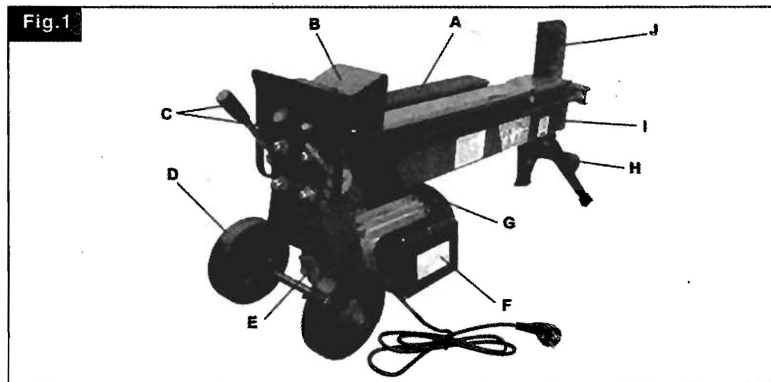

Figure 1: List of major components
Check these components according to the following list and Figure 1.
6. Place log onto Splitter, lengthwise and lying flat on the Main Body (1 in Figure 1). The log should lie flat on the Splitter. And be cradled by the Log Guiding Plates (A in Figure 1). Never attempt to split a log at an angle. Be sure the Wedge (J in Figure 1) and Log Pusher (B in Figure 1) will contact the log squarely on the ends.
7. Two hand operation. Depress the Electric Motor Start Switch (Point F in Figure 1) with one hand. Wait a few seconds as the motor spins up and creates pressure in the Hydraulic pump. Then, when it is safe to do so, Depress the Operating Handle (C in Figure 1). The Log Pusher (B in Figure 1) will compress the log, pushing it against the Wedge (J in Figure 1), Splitting the log. Once the log is split, release both the Electric Motor Start Switch (F in Figure 1) and the Operating Handle (C in Figure 1); this will allow the Log Pusher (B in Figure 1) to retract.
1. Release both controls, so that the LOG PUSHER (Pos. B in Fig 1) will be fully retracted.
1. Make sure the LOG PUSHER (B in Figure 1) is fully retracted.